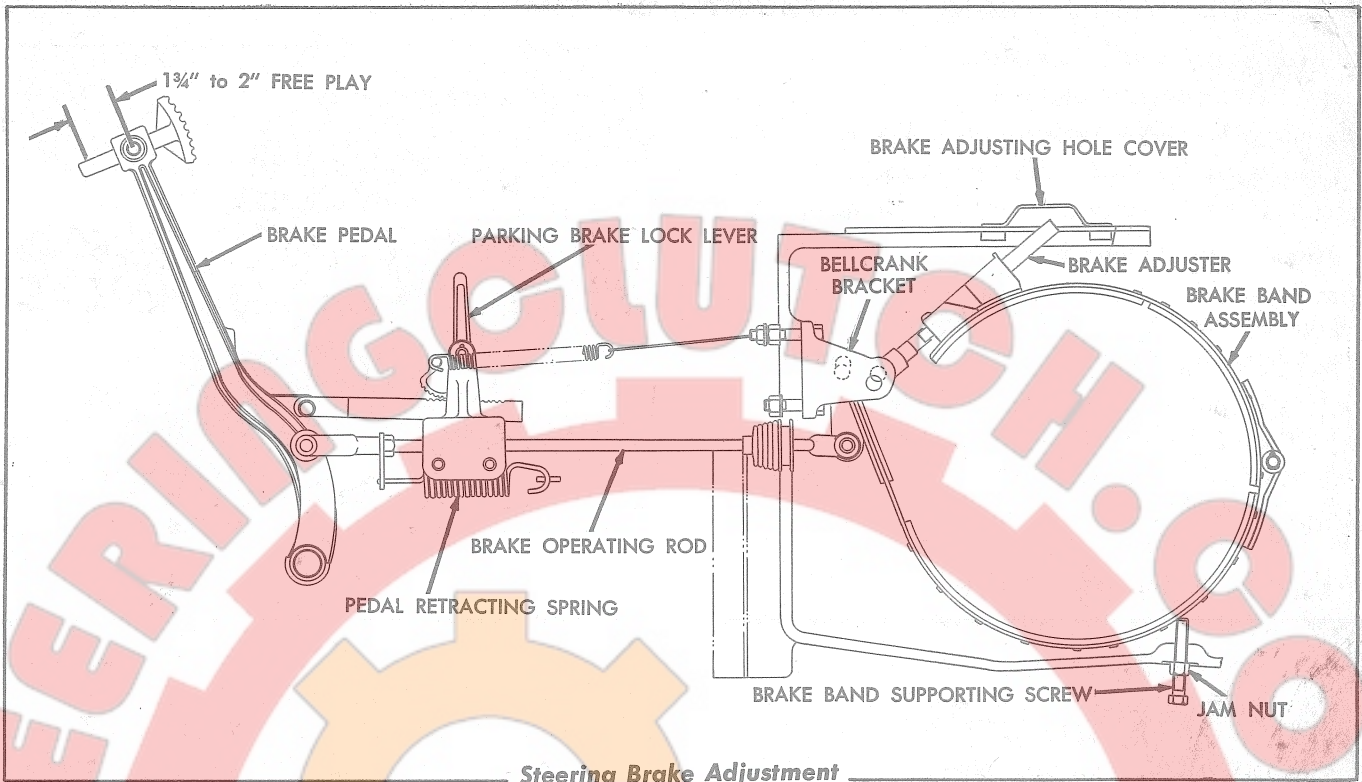

FIG. 54
2. Turn the brake adjuster (Fig. 54) clockwise until the brake pedal has  $1\frac{3}{4}$ " to 2" free travel. **NOTE:** When adjusting the brakes, it is necessary to turn the brake adjuster in  $\frac{1}{2}$  turn increments so that the lobes on the adjuster will center in the grooves of the spring loaded locking block.
3. With the brake pedal free (pedal all the way back), loosen the jam nut on the brake band supporting screw (Fig. 54). Turn the screw into the housing until the bottom of the brake band is against the brake drum, then back the supporting screw out  $\frac{1}{2}$  turn to allow clearance between the brake band and the drum. Tighten the jam nut on the supporting screw.